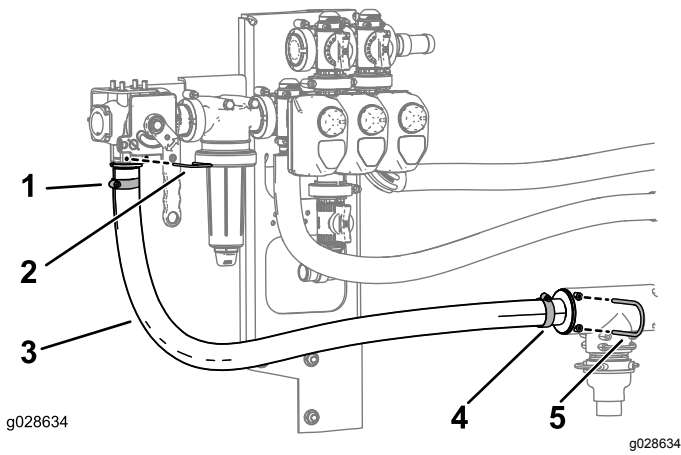

Figure 22
5. Route and secure the pressure hose assembly as shown in Figure 22.